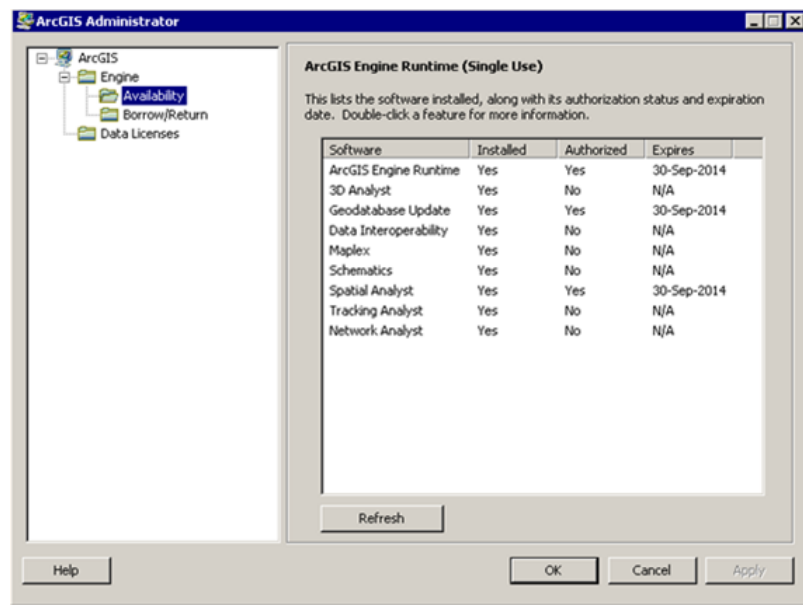

Figure 2-19 ArcGIS Administrator – Availability
3. Select the *Availability* folder in the left window pane. Verify the authorization status and expiration dates for the following software (Figure 2-19).